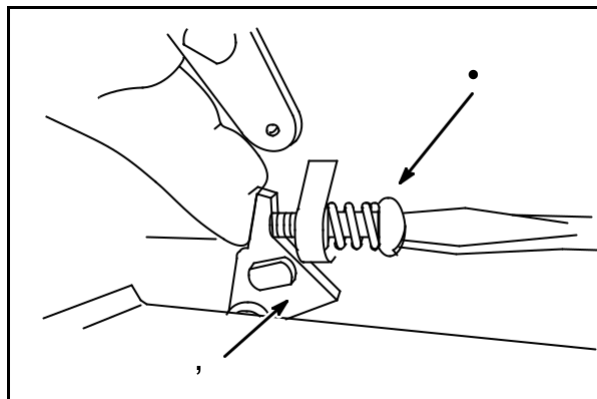

Fig. 10
Hold throttle lever (2) against idle speed screw (1), Fig. 10. Temporarily adjust idle to RPM shown below.